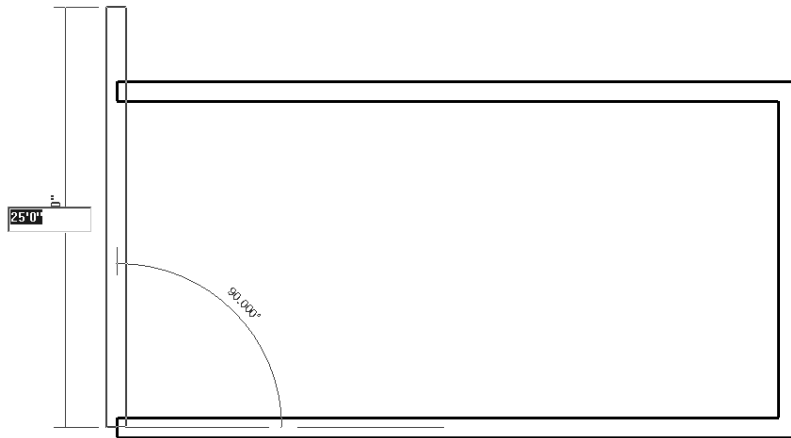

Figure 3-34 *Sketching the fourth exterior wall segment*
6. You have enabled the **Chain** option and therefore, the next wall segment automatically starts from the last specified point. Hold the SHIFT key and move the cursor vertically upward. Enter **25'0"**, as shown in Figure 3-34 and press ENTER to create a vertical wall segment. The fourth wall segment is created.